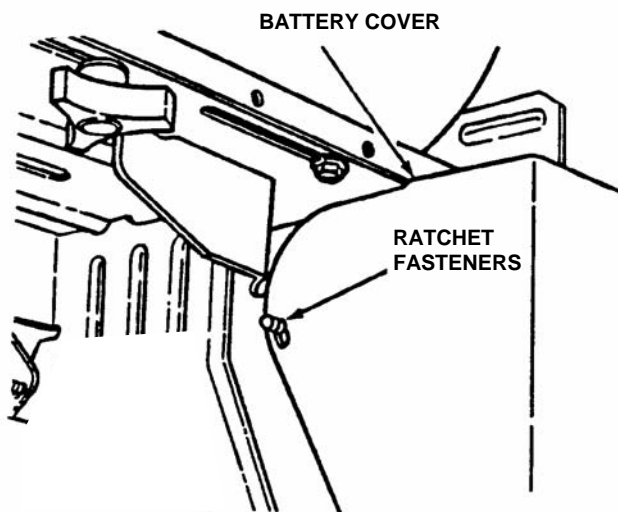

FIGURE 4.17
1. Carefully pull each side of battery cover away from ratchet fasteners and remove cover. See Figure 4.17.
5. Reinstall battery cover. See Figure 4.17.
12. Reinstall battery cover. See Figure 4.17.